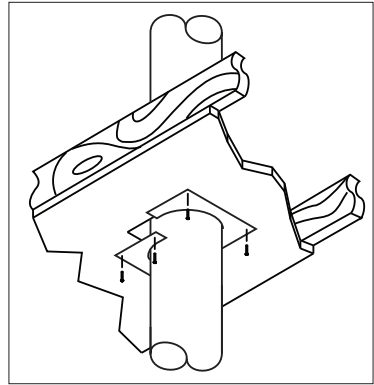

Figure 2
3. Slide the two halves together and attach to the ceiling using either 8 penny nails or #8 1-1/2in wood screws at each of the four corners and at the two overlapping sides (**Fig.2**)